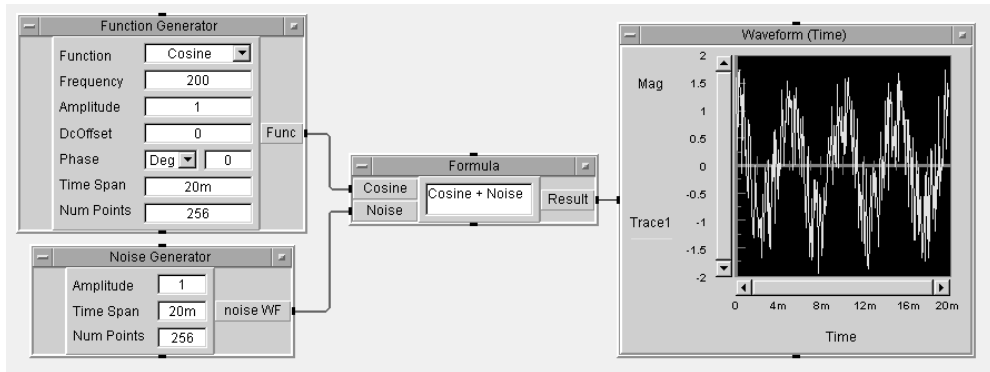

Figure 1.11. Program for Lab 1.5
16. Run this corrected program again; it should run correctly. See Figure 1.11.